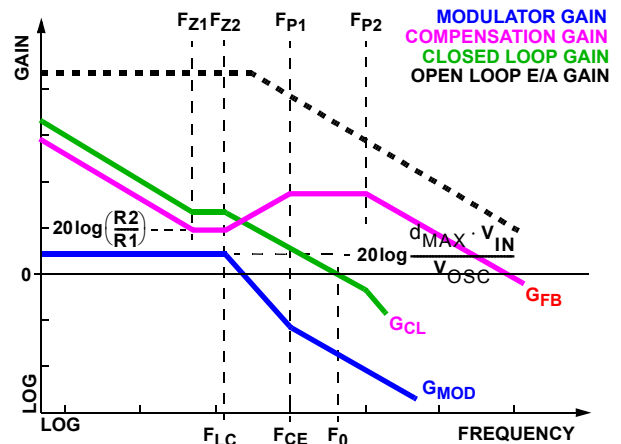

FIGURE 25. ASYMPTOTIC BODE PLOT OF CONVERTER GAIN
Figure 25 shows an asymptotic plot of the DC/DC converter's gain vs frequency. The actual Modulator Gain has a high gain peak dependent on the quality factor (Q) of the output filter, which is not shown. Using the above guidelines should yield a compensation gain similar to the curve plotted. The open loop error amplifier gain bounds the compensation gain. Check the compensation gain at F_{P2} against the capabilities of the error amplifier. The closed loop gain, G_{CL}, is constructed on the log-log graph of Figure 25 by adding the modulator gain, G_{MOD} (in dB), to the feedback compensation gain, G_{FB} (in dB). This is equivalent to multiplying the modulator transfer function and the compensation transfer function and then plotting the resulting gain.